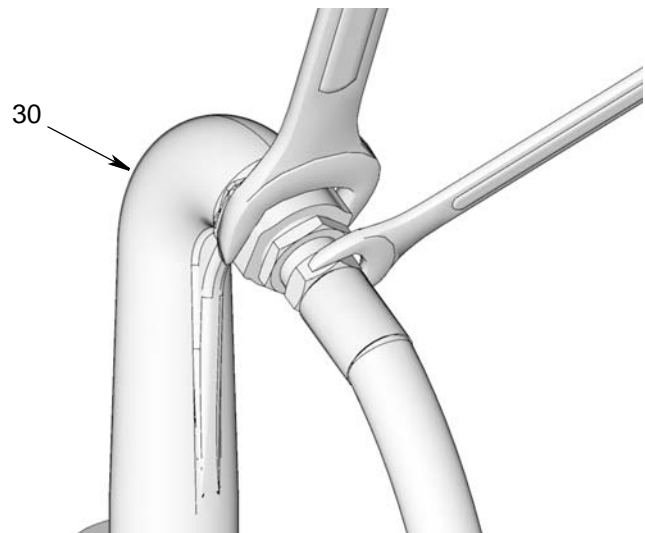

FIG. 59
11. Attach end of the new hose to the outlet (30) using two wrenches on the flats, working in opposite directions, to securely tighten the hose to the outlet fitting (FIG. 59).